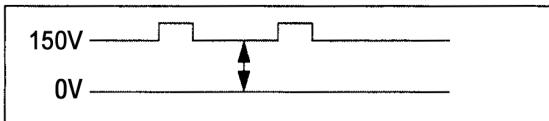

Fig. 1
2. Adjust G-CUTOFF control to become the DC=0 V to video level at 150 V as shown in Fig. 1.